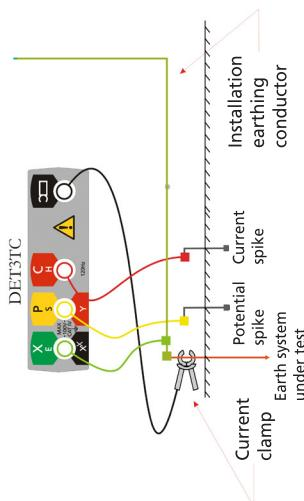

Figure 10: Connection for measuring three-terminal ground rod resistance
1. With the selector switch in the 'OFF' position, connect the instrument as shown in Figure 10 and close the ICLAMP around the earthing conductor under test.